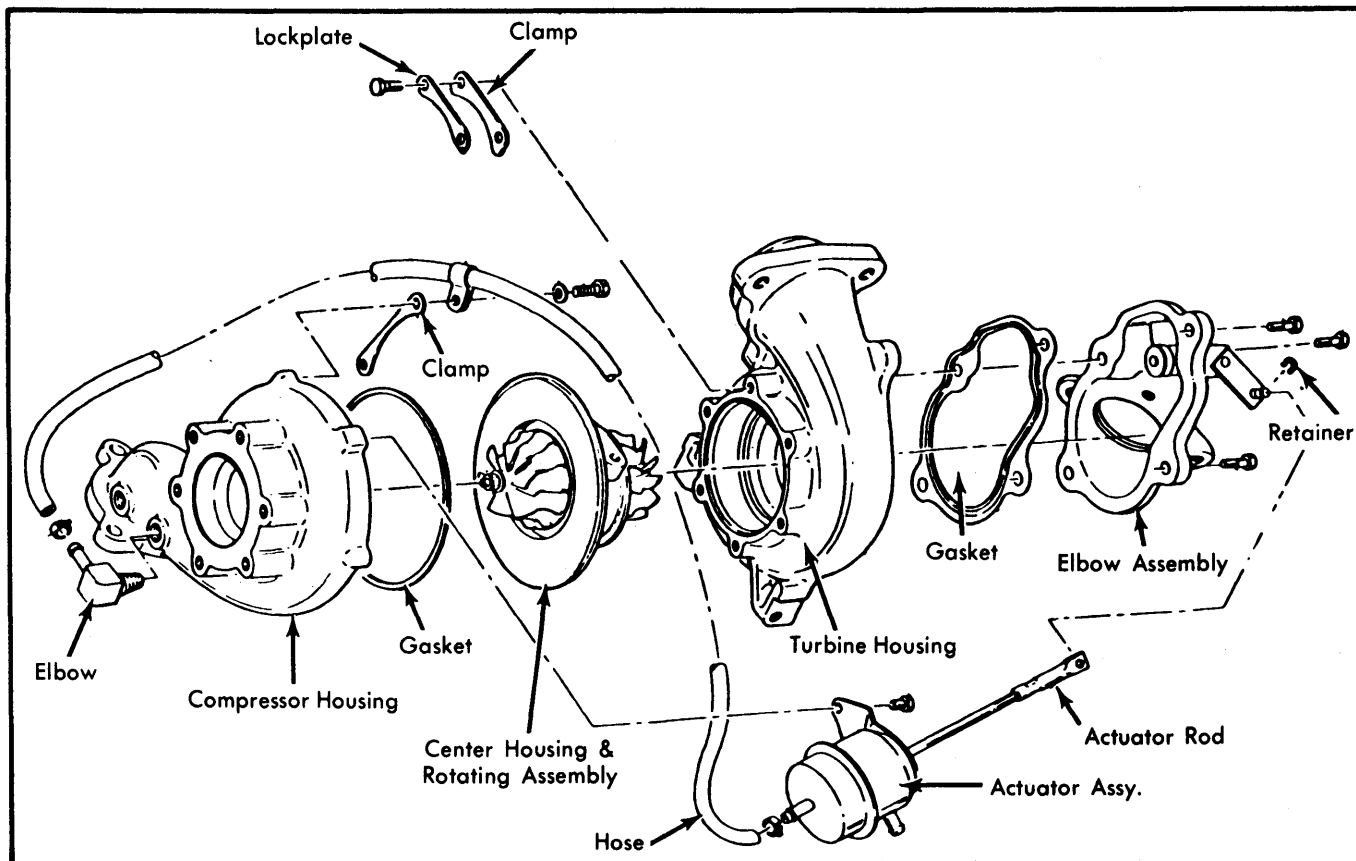

Fig. 2 Exploded View of Turbocharging System On GM V6 Engines
The compressor is connected to the turbine by a shaft. As the turbine wheel turns, so does the compressor wheel. No exhaust gas is actually passed into the compressor. The carburetor directs the air/fuel mixture into the compressor. The spinning compressor forces more air/fuel mixture into the intake manifold than would normally be drawn in under atmospheric pressure. With a higher intake manifold pressure and denser charge available, more mixture is drawn into the combustion chamber on the intake stroke of the piston. A denser mixture results in more power output from the engine. The faster the compressor spins, the more air/fuel mixture is compressed into the manifold. In this way, engine demand can be satisfied. See Fig. 2.
- 3) Connect hand operated vacuum/pressure pump (J-23738 or equivalent) in series with compound gauge (J-28474) to actuator assembly. This assembly will replace compressor-to-actuator hose. See Fig. 2.